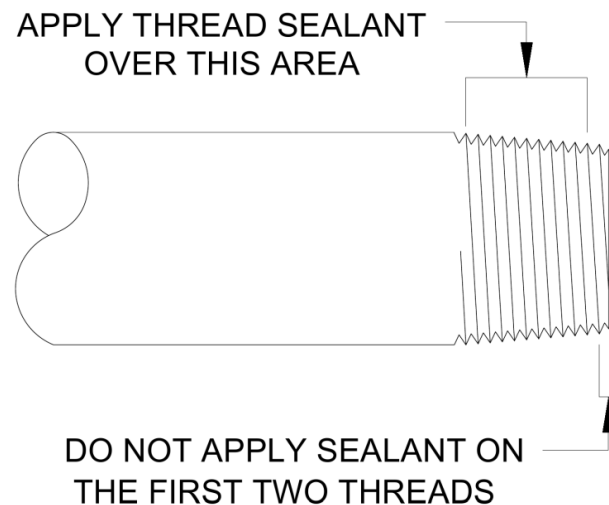

Figure 9 – Applying Thread Sealant
4. Apply Teflon tape, or other thread sealant, on the male connector as illustrated in Figure 9 to minimize fuel line contamination.